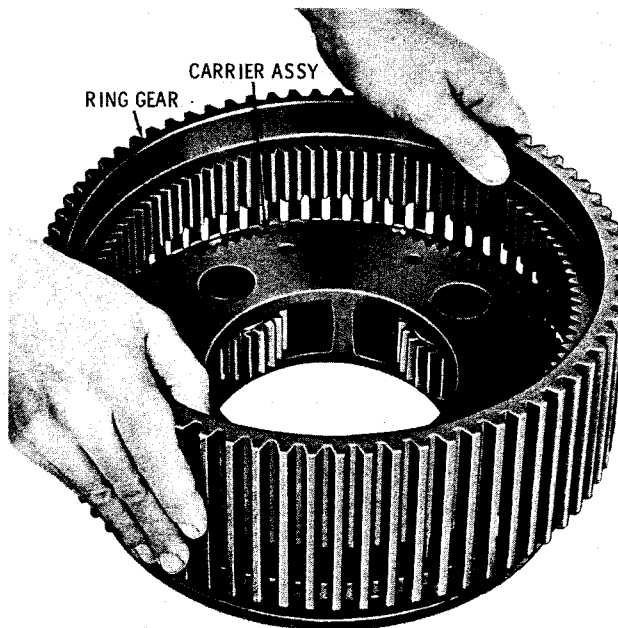

Fig. 7-13. Installing intermediate-range planetary ring gear onto carrier assembly
(9) Install the intermediate-range planetary ring gear, counterbored side upward, onto the intermediate-range planetary carrier assembly (fig. 7-13).